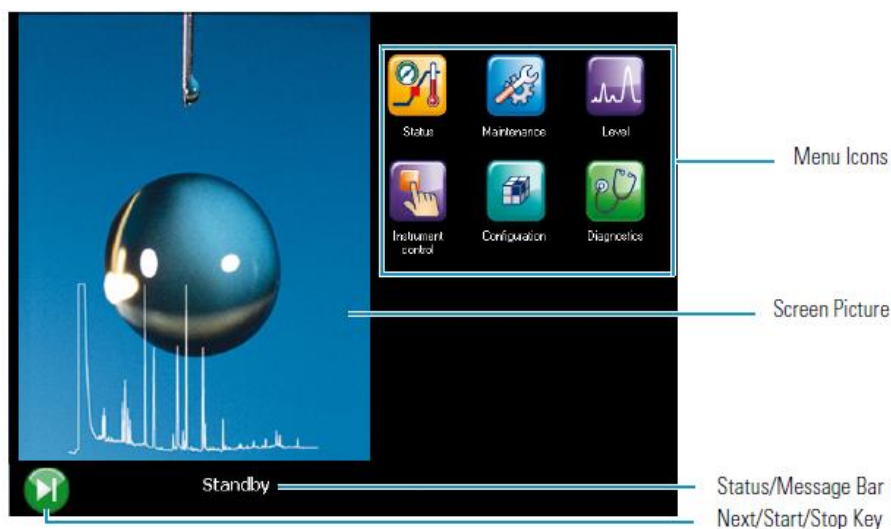

Figure 4. Thermo Trace GC Main menu interface.
The GC oven ramp rates can be easily set by navigating in the GC interface. The Thermo Trace 1310 GC user interface is a touch screen. The main menu screen is shown in Figure 4.
4.2.2 The screen on Figure 6 will be displayed. Select the parameter to be adjusted by pressing on its value on the “Setpoint” column. Press “Clear” to delete the number, enter the correct value for each parameter and then “Enter” to save the changes (the changes will not apply otherwise). Press the home icon to return to the main menu showed in Figure 4.